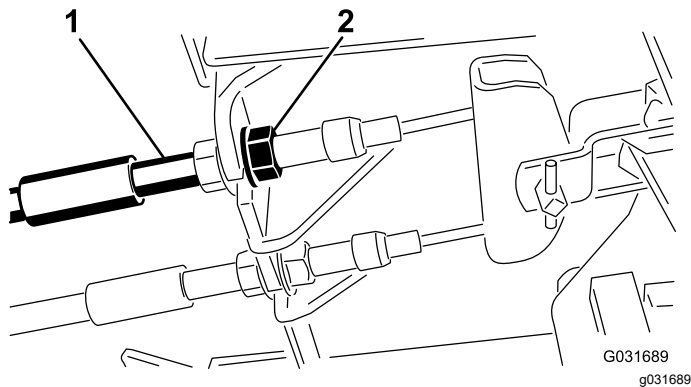

Figure 54
1. To reduce free travel of the brake pedals, tighten the brakes by loosening the front nut on the threaded end of the brake cable (Figure 54).